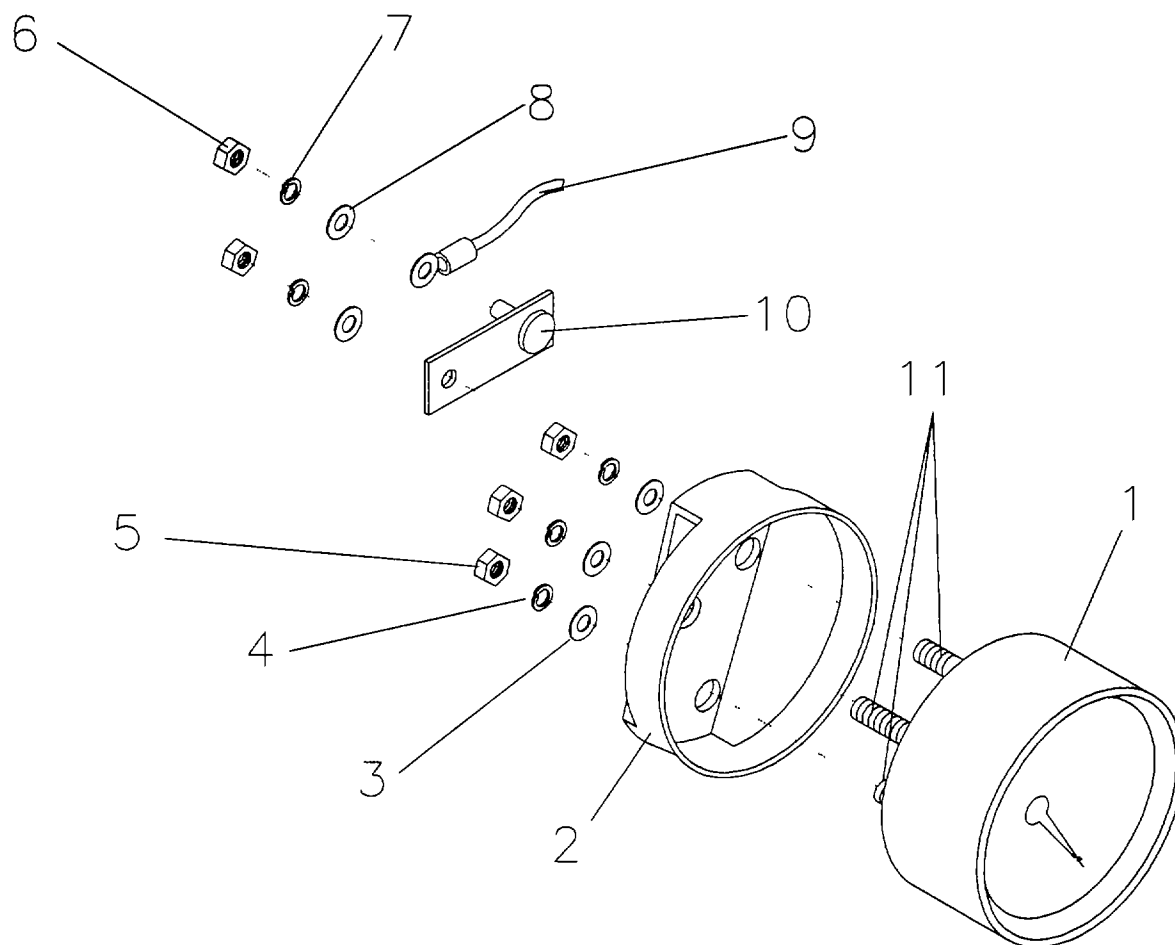

Figure 5-1. Pane Mounted Instruments.
a. Removal. Refer to figure 5-1.
- 1) Remove the nuts (6), lockwashers (7), flatwashers (8), tag and remove wires (9) and resistor assembly (10), where applicable, connected to the instrument (1) to be removed. Discard lockwashers.
- 2) Remove the nuts (5), lockwashers (4), flatwasher (3), and retainer (2). Discard lockwashers.
- 3) Remove the instrument (1) from the front of the panel.
b. Installation. Refer to figure 5-1.